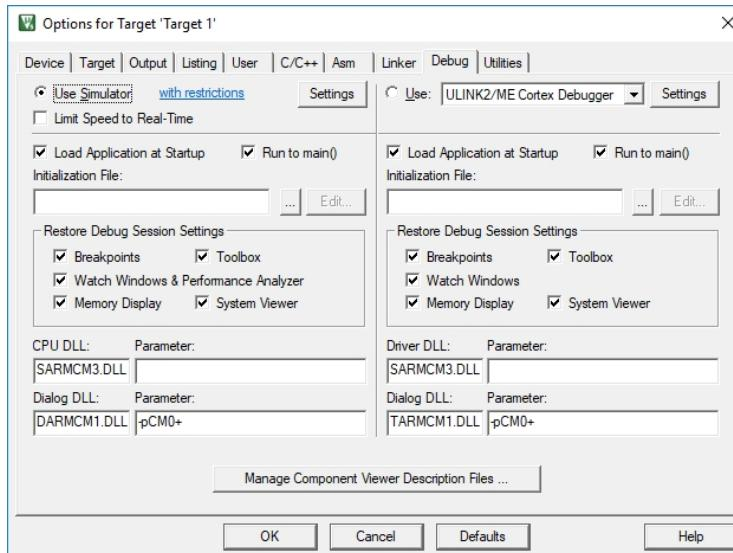

Figure 21. Setting Options for µVision Debug Simulator
- On the second toolbar row, click the Target Options icon (or select menu Project→Options for Target 'Target1' ...) to launch the Options for Target 'Target1' window, as shown in Figure 21.
- Click on the Debug tab along the top of the window to get the options shown in Figure 21.